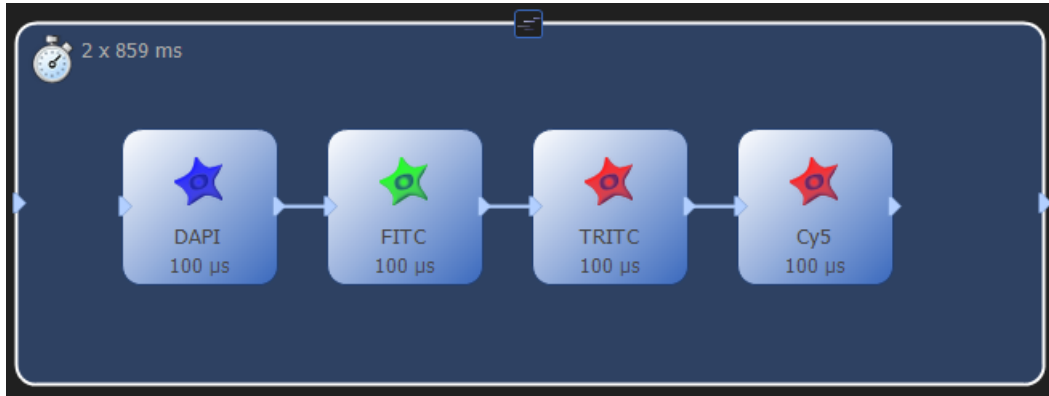

Figure 15: An example of a multi-channel time-lapse in 'Experiment Manager'
- This opens the 'Experiment Manager' page. Click the 'Image Acquisition' dropdown to add Observation Methods, which can be added as a time-lapse (see Figure 15).